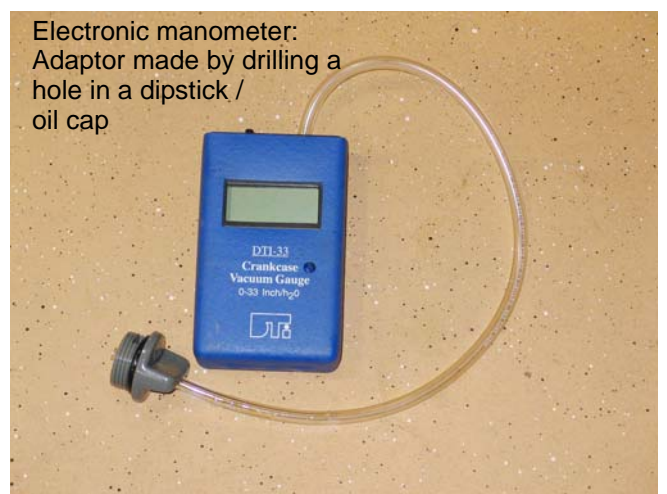

Figure 2.5
**NOTE:** An adaptor can easily be made from an old or extra dipstick. See Figure 2.5.